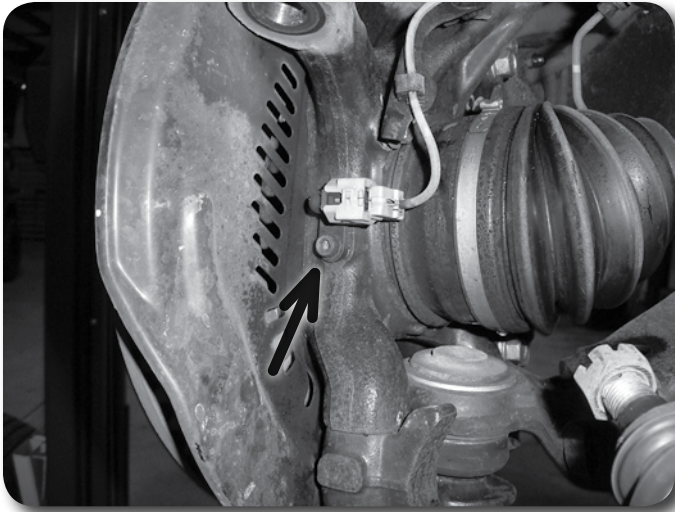
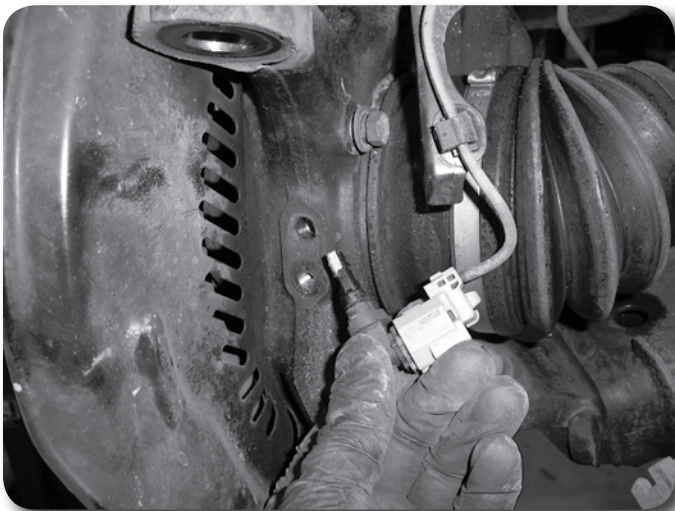

Figure 8A
Figure 8B
11. Remove the ABS sensor bolt **Figure 8A** from the knuckle (requires a 5mm hex socket). Carefully remove the sensor from the knuckle **Figure 8B**. It is held in place by an o-ring. Take extra care not to damage the sensor. Save mounting bolt.